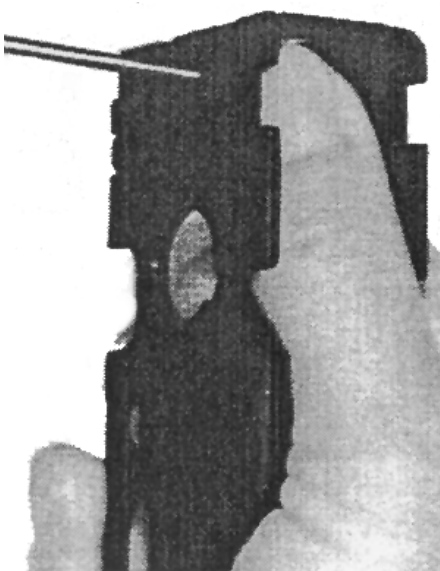

Figure 28
- Put downward pressure on the *stop latch elbow spring* and push out the *spring axle* with a punch (Fig. 28)